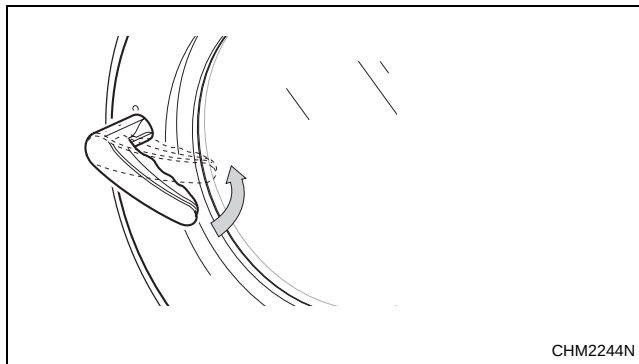

Figure 6
4. Close door and turn handle counter clockwise. Refer to *Figure 6*.